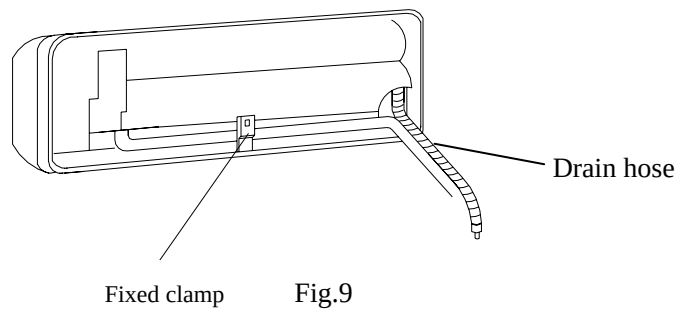

Fig.9
Right chart is available for the position of drain hose. refer to fig.9
2. Connecting left back tube (similar to left lower tube). Fig. 9